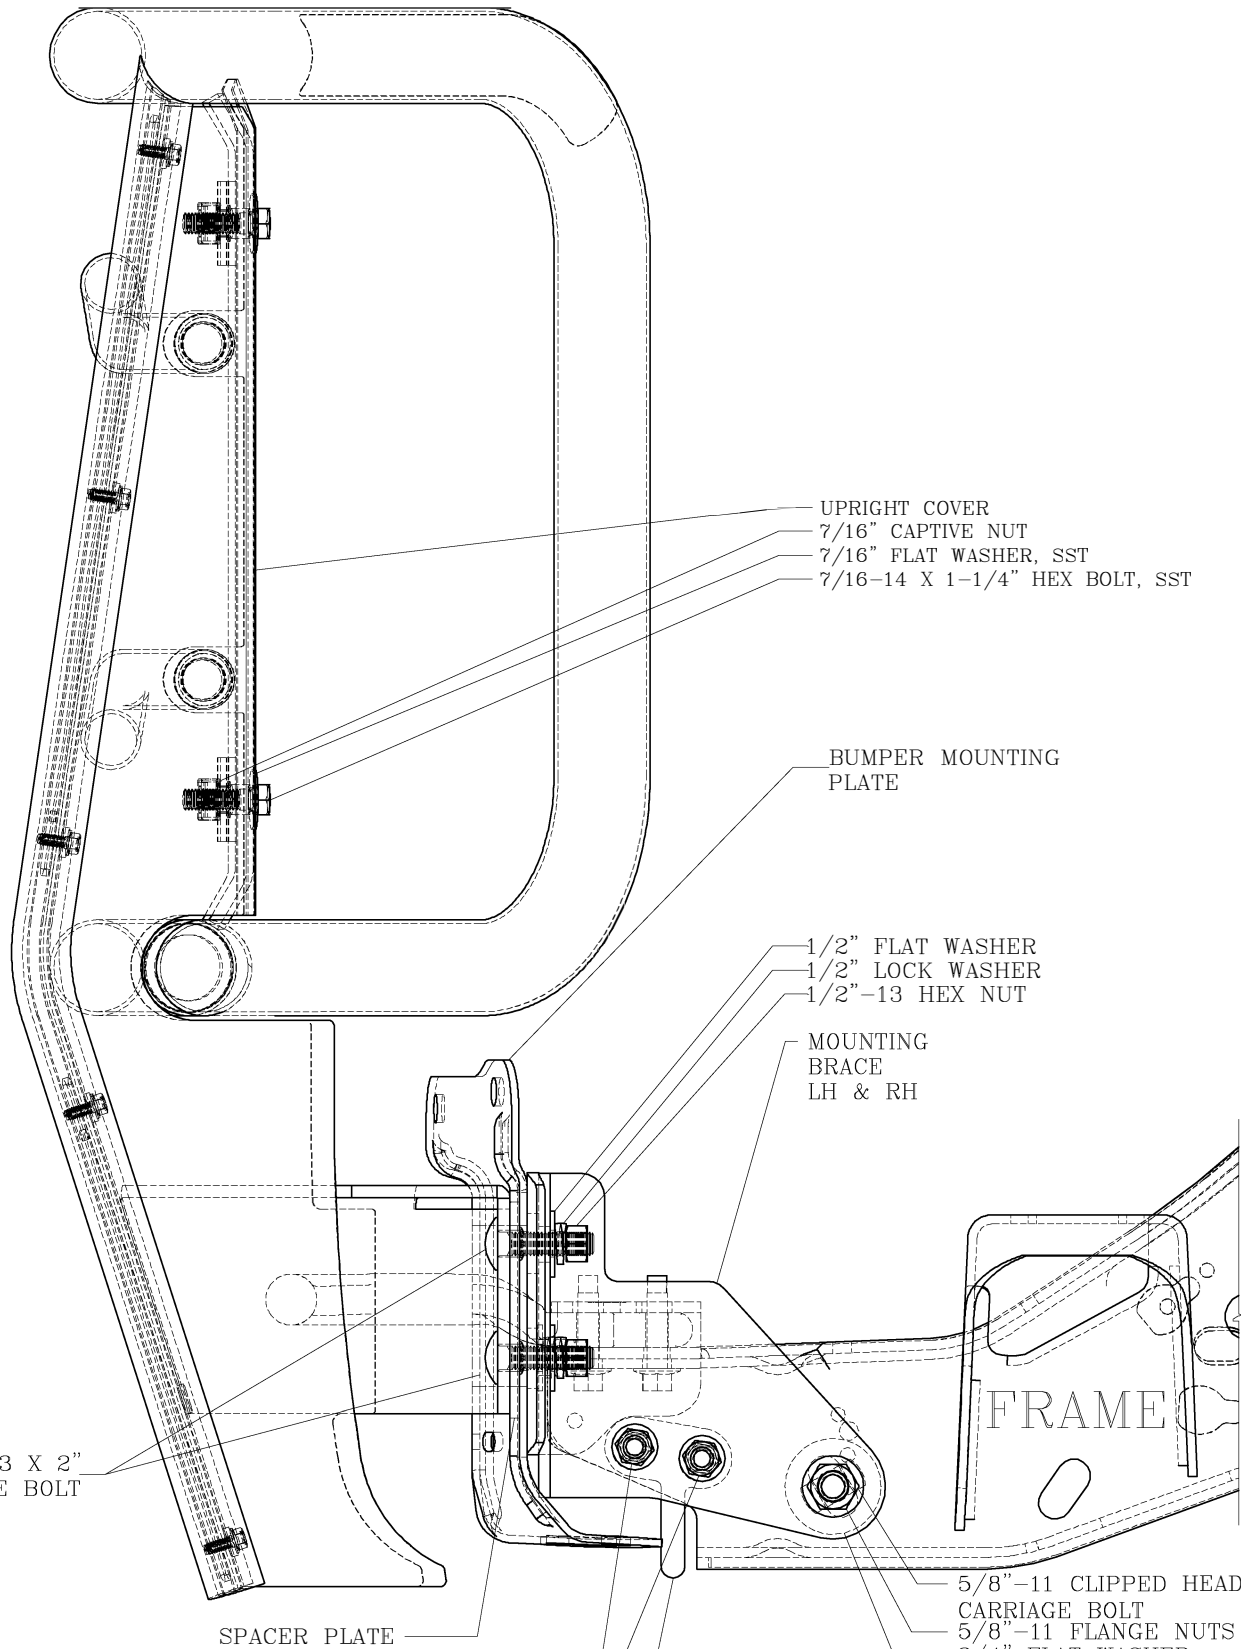

fig.1
9. INSERT THE ASSEMBLED UPRIGHT INTO THE HOLES IN THE BUMPER AND FASTEN WITH 1/2" FLAT WASHERS (ITEM #23), 1/2" LOCK WASHERS (ITEM #20) AND 1/2" HEX NUTS (ITEM #17) AS SHOWN IN FIG. 1 & 2. HAND TIGHTEN ONLY AT THIS TIME.